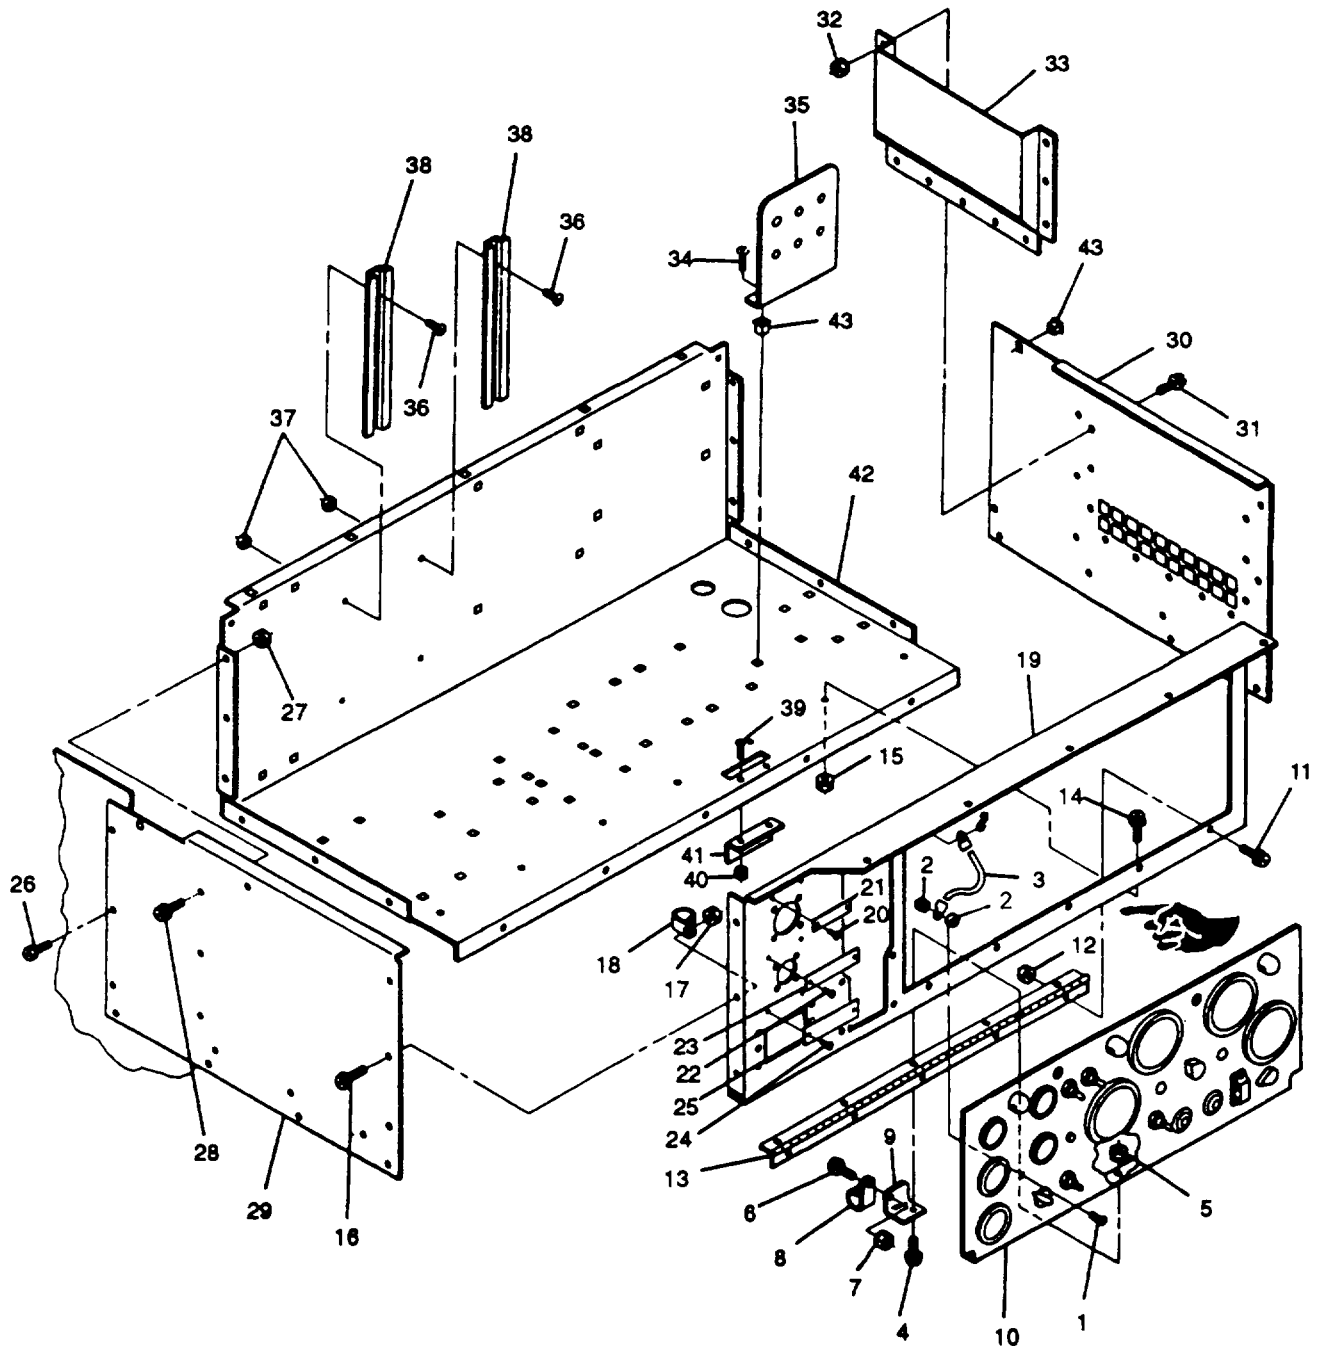

FIGURE 2-19. Control Box Panels
- f. Tag and disconnect all electrical leads to remaining indicators and switches on control panel (10, FIGURE 2-19).
- g. Remove screw (1), nut (2), and strap (3).
- h. Remove bolts (4) and (6), nuts (5) and (7), bracket (9), clamp (8), and control panel (10) from control box assembly.
- i. Remove bolts (11), nuts (12), and hinge (13) from control box assembly.
Inspect control panel (10, FIGURE 2-19) for dents, cracks, loose paint, and corrosion.
Inspect control panel frame (19, FIGURE 2-19) for dents, cracks, loose paint, and corrosion.
- a. Install control panel frame (19, FIGURE 2-19) and clamp (18) to control box assembly with bolts (14) and (16) and nuts (15) and (17).
- b. If removed, install identification plates (21), (23), and (25) on rear panel (19) with pop rivets (20), (22), and (24).
- d. Remove bolts (16, 26, and 28, FIGURE 2-19), nuts (17) and (27), and control box side panels (29) and (30) from generator set.
- e. Remove bolts (31), nuts (32), and air deflector (33) from side panel (30).
- a. Inspect side panels (29 and 30, FIGURE 2-19) and air deflector (33) for dents, cracks, loose paint, and corrosion.
- b. Inspect for missing or damaged cage nuts (43).
- b. Install air deflector (33) on control box side panel (30) with bolts (31) and nuts (32).
- c. Install control box side panels (29 and 30, FIGURE 2-19) on generator set with bolts (16), (26), and (28) and nuts (17) and (27). Ensure center bolt (16) and nut (17) on left side panel secures clamp (18).
- h. Remove screws (34, FIGURE 2-19) and bracket (35) from control box bottom (42).
- i. Remove screws (36), nuts (37), and relay tracks (38) from control box bottom (42).
- j. Remove screws (39), nuts (40), and latch plate (41) from control box bottom (42).
- a. Inspect control box bottom (42, FIGURE 2-19) for dents, cracks, loose paint, and corrosion.
- a. Install latch plate (41, FIGURE 2-19) on control box bottom (42) with screws (39) and nuts (40).
- b. Install relay tracks (38) on control box bottom (42) with screws (36) and nuts (37).
- c. Install bracket (35) on control box bottom (42) with screws (34).